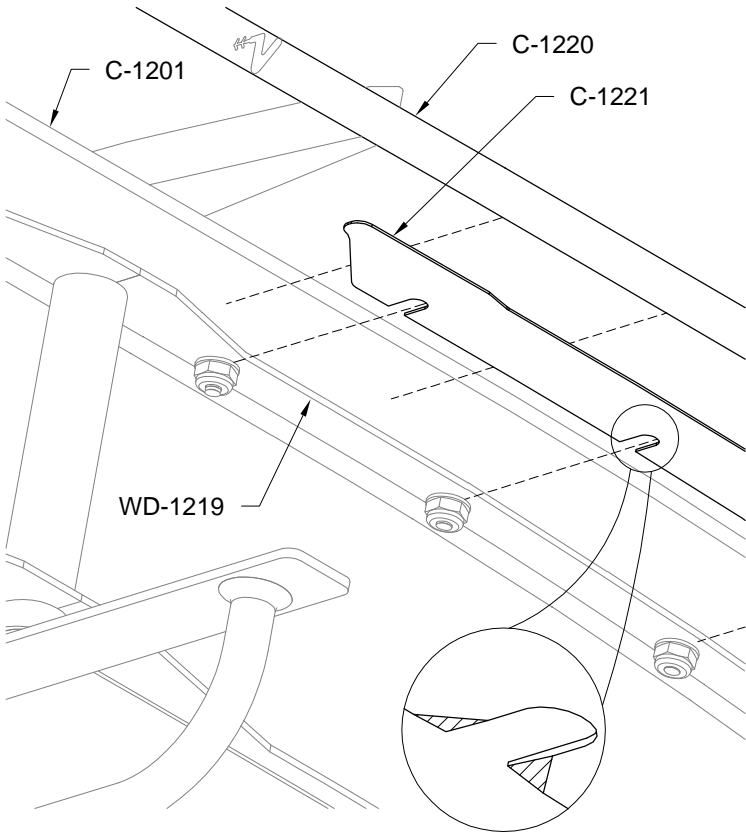

FIGURE 1: RETAINER & SEAL INSTALLATION
Step 1: Deburr the C-1221 Seal Retainer and bevel the edges at the screw slots as shown in Figure 1 to aid in sliding the retainer beneath the washers.
Install the two retainers as shown in Figure 1 and Section B-B.